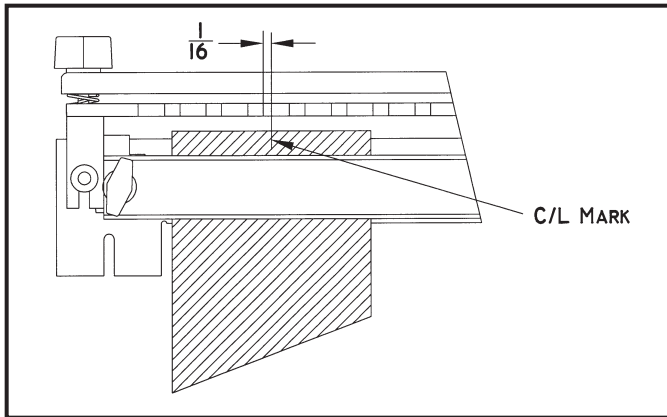

Fig. 20
4. Mark center of board to be routed (see Fig. 20). Place board under front clamp, against bottom of box templet. Locate the board center mark 1/16" to the right of the templet finger slot that is closest to the left end of the templet (see Fig. 20).